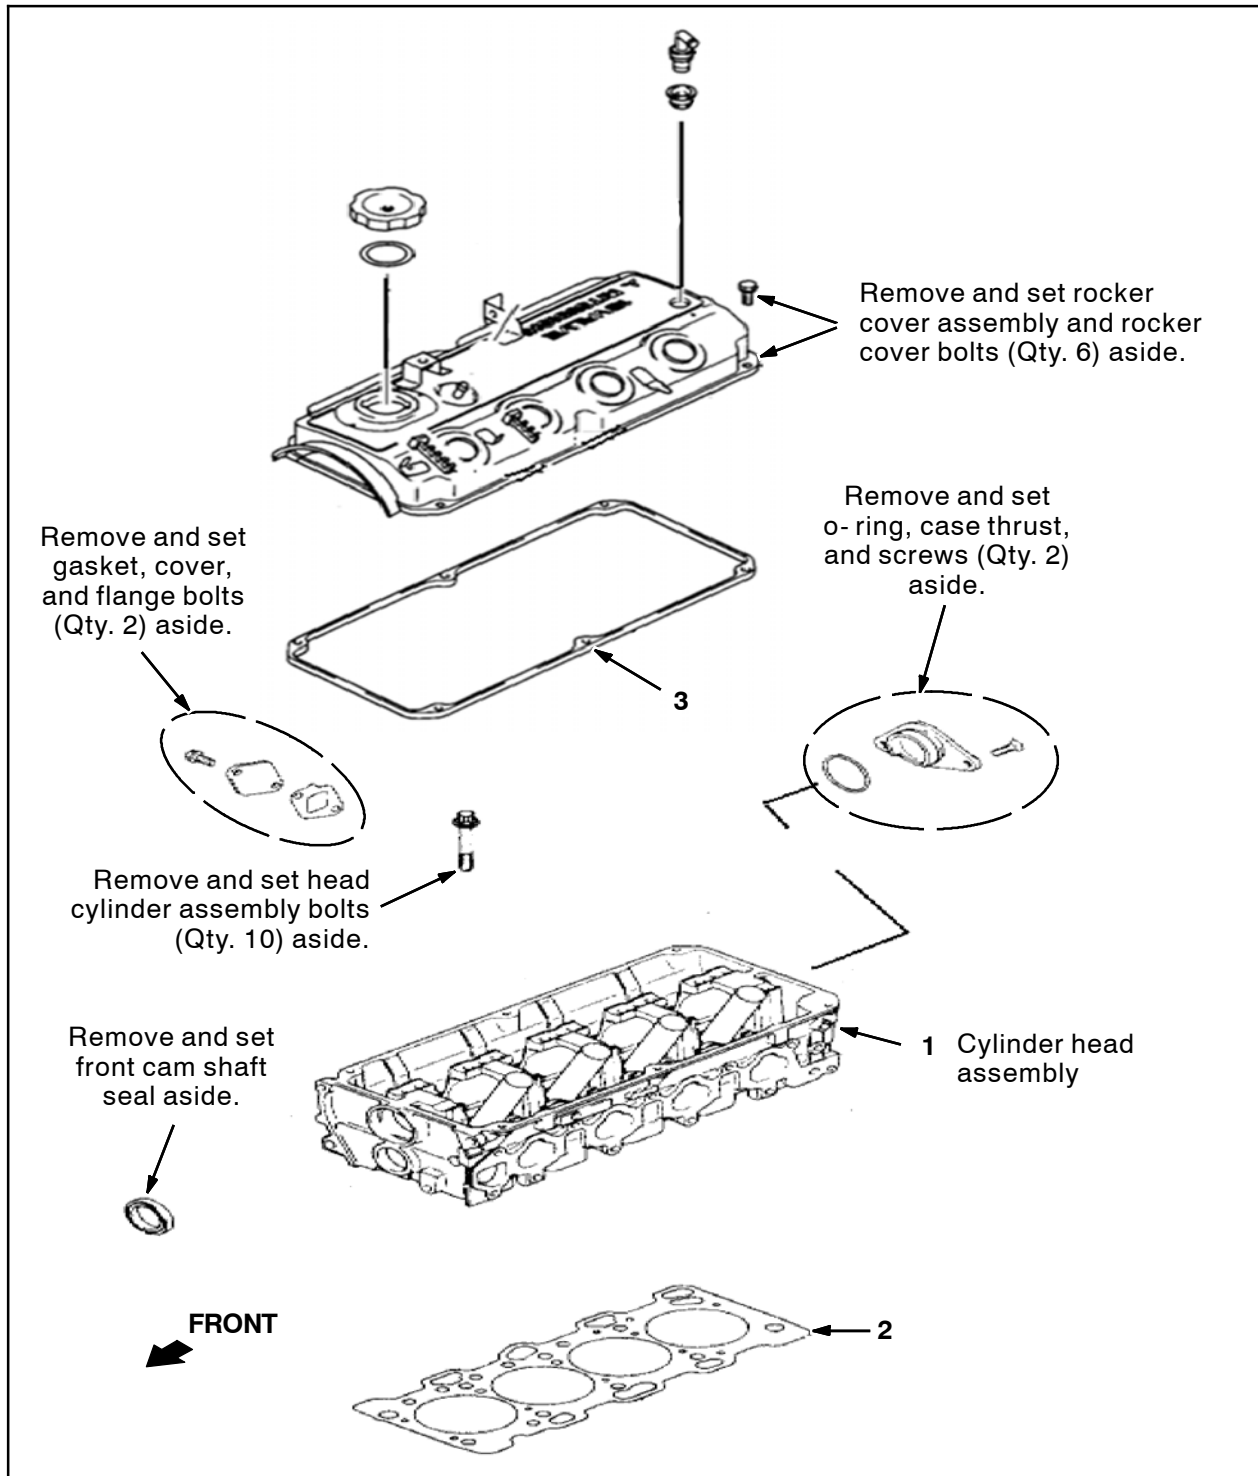

FIG. 6
1. Remove the rocker cover assembly from the engine. Set the rocker cover assembly and six rocker cover bolts aside. (Fig. 6)
2. Remove the cylinder head assembly from the engine. Set the ten cylinder assembly bolts aside. (Fig. 6)
7. Remove the gasket, cover, and flange bolts from the removed cylinder head assembly. Set the removed items aside. (Fig. 6)
8. Remove the o-ring, case thrust, and screws from the removed cylinder head assembly. Set the removed items aside. (Fig. 6)
9. Remove the front cam shaft seal from the removed cylinder head assembly. Set the front cam shaft seal aside. Discard the cylinder head assembly. (Fig. 6)
10. Clean any remains of the old gasket from the rocker cover assembly. (Fig. 6)
11. Carefully clean any remains of the old gasket from the engine. **Do Not** allow any of the old gasket to fall into the engine. (Fig. 6)
12. Install all saved items removed from the old cylinder head assembly onto the new cylinder head assembly (1). (Fig. 6)
13. Install the intake manifold and exhaust manifold onto the cylinder head assembly (1). (Fig. 6)
14. Install the cylinder head gasket (2) onto the cylinder head assembly (1). (Fig. 6)
15. Install the cylinder head assembly (1) onto the engine. (Fig. 6)
16. Install the rocker cover gasket (3) onto the rocker cover assembly. (Fig. 6)
17. Install the rocker cover assembly onto the cylinder head assembly (1). (Fig. 6)
19. Assemble remaining parts onto the cylinder head assembly (1). (Fig. 6)
20. Install the spark plugs (4) into the engine. (Fig. 6)
21. Install the spark plugs (4) into the engine. (Fig. 6)
23. Connect the spark plug cables to the spark plugs (4).
26. Start the engine and allow it to run for approximately 1 minute. Observe around the cylinder head assembly (1) and rocker cover assembly for leaks. Observe around the radiator and coolant system hoses for leaks.
- NOTE: Order / use spark plugs (4) when replacing the spark plugs on machines updated with this cylinder head kit. **Do Not** use the same spark plugs previously used before the machine was updated with this kit.*